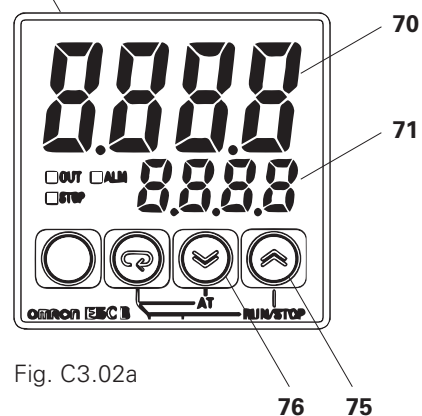

Fig. C3.02a
After switching on, the control unit (67) displays the actual temperature value (70) and set value (71). The heating system becomes operational when the actual temperature value is lower than the set point. (Fig. C3.02a)